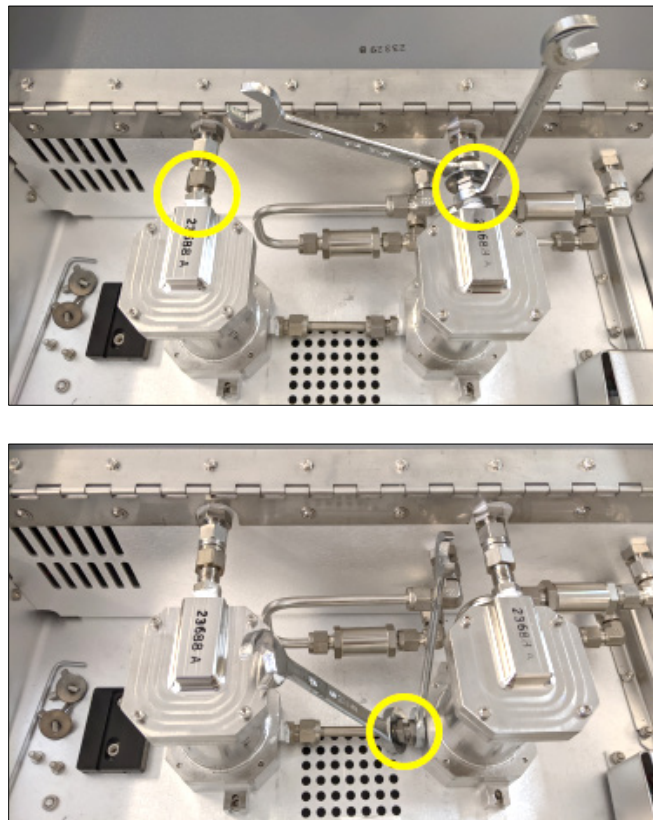

Figure 46: Disconnecting Scrubber Swagelok Fittings
4. Unscrew the indicated Swagelok connections (Figure 46) with the available 1/2" and 9/16" wrenches. (Be sure to use both available wrenches and hold the connection attached to the scrubber housing in place when loosening the Swagelok connection.)